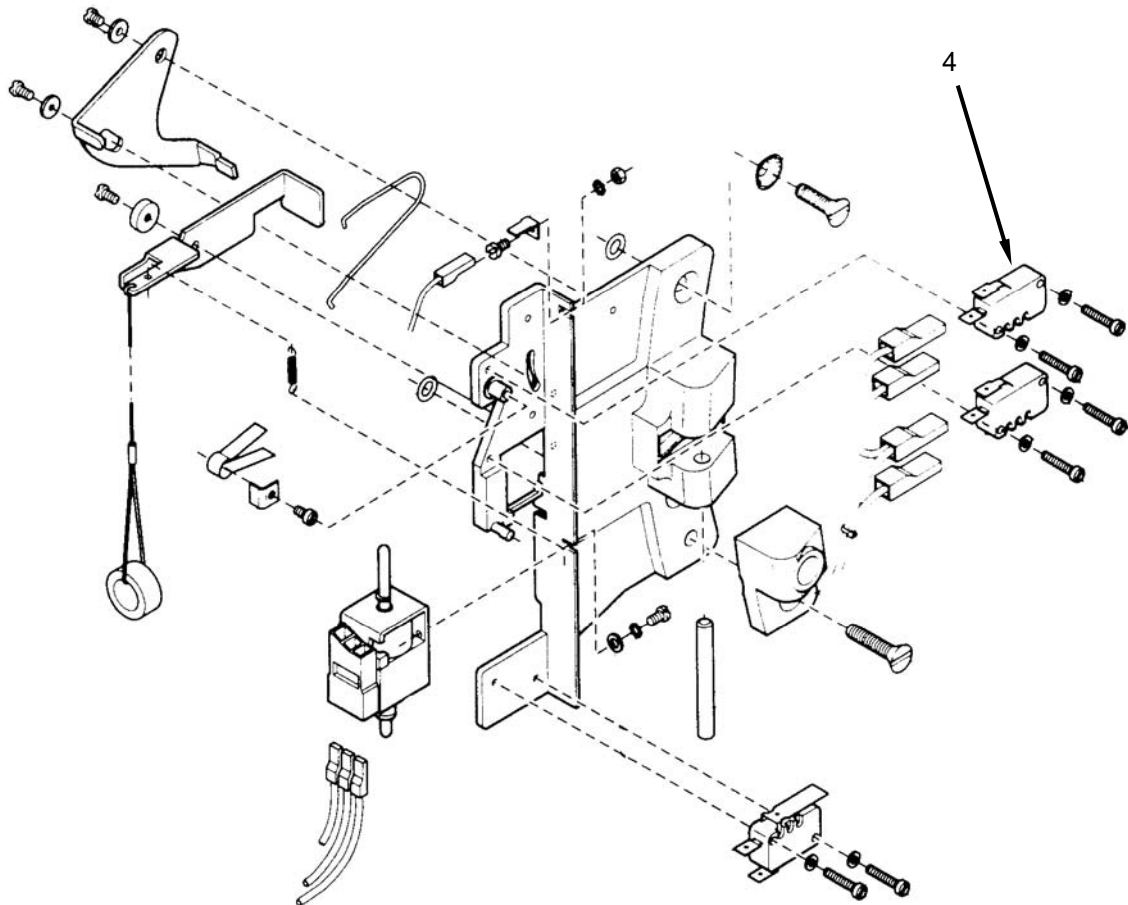

Figure 8. Replace the Door Latched Switch.
2. Cut the wire ties (**Figure 8, Item 1**) retaining switch wiring to the washer frame. There may be one or two wire ties.
4. Remove screws retaining door strike assembly (**Figure 8, Item 2**) and remove door strike assembly.
5. Tag and disconnect wiring from latched switch (**Figure 8, Item 4**).
6. Remove screws retaining switch (**Figure 8, Item 4**) to door strike assembly (**Figure 8, Item 4**) and remove switch.
7. Install replacement switch (**Figure 8, Item 4**) onto door strike assembly (**Figure 8, Item 2**) and retain with screws.
8. Connect wiring to replacement switch (**Figure 8, Item 4**) as tagged.
9. Install door strike assembly (**Figure 8, Item 2**) and retain with screws.
10. Retain wiring with wire tie (**Figure 8, Item 1**).